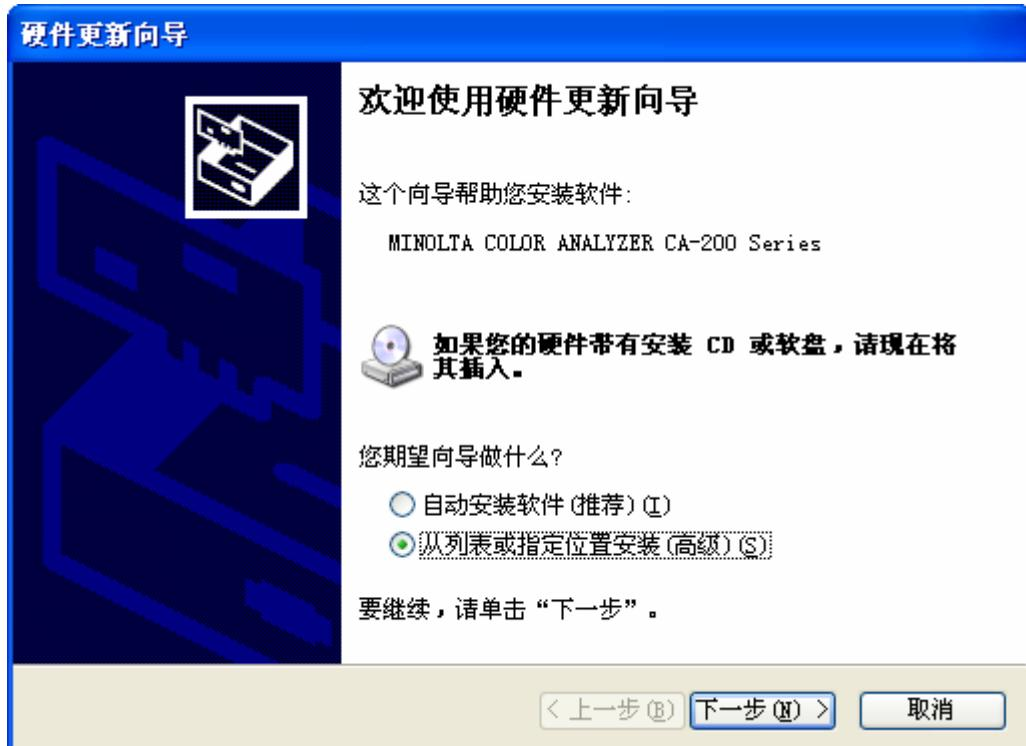

Fig.4
- a) Power on CA210, connect data line normally, a prompting dialog will display as Fig.4 for the first time of setup;
- b) Select item “Setting from list or specified location (advanced)”, then press button “Next”, please refer to Fig. 4;